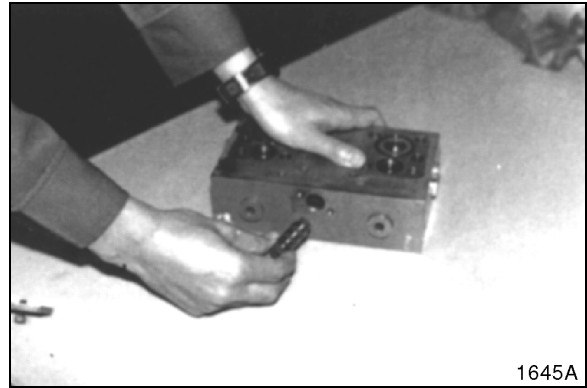

Figure 52
7. Remove bushing. See Figure 52.